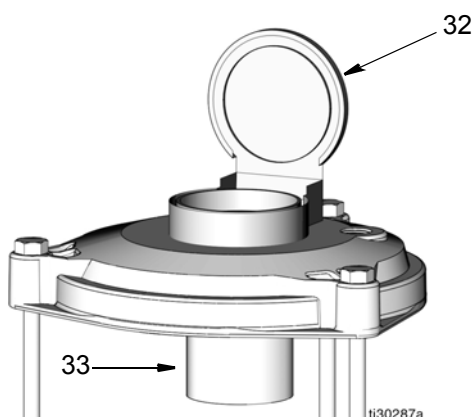

FIG. 6
1. Open oil fill cap (32) on the top of the reservoir.
NOTE: A filter (33) is installed at the oil fill cap (32) to prevent lubricant contamination (FIG. 6).
- a. Inspect filter (33) before filling reservoir.
- b. When needed, remove filter (33) and clean it thoroughly.
- c. If removed in Step b, install filter (33) prior to adding lubricant.